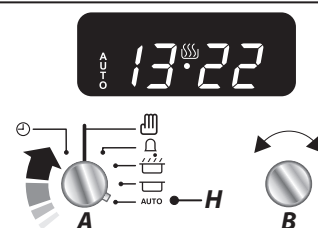

Fig. 3.7
3. Turn the **Timer (A)** knob to the **Auto (H)** setting. The display will show the current time, the cooking symbol and the word 'AUTO' (**Fig. 3.7**).
Press and hold the 'stop time' [stop icon] button (**Fig. 3.7**) and then press the [+] button (or [-] button) until the required 'stop time' shows (**Fig. 3.8**). The [stop icon] symbol and [AUTO] will show in the display.